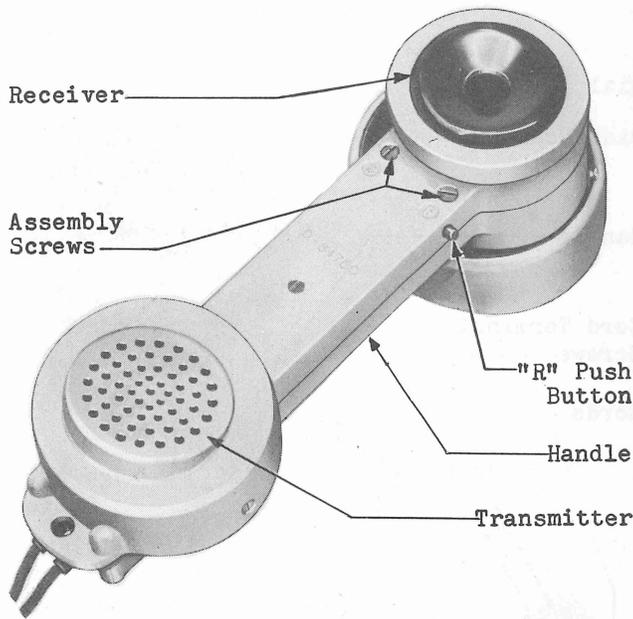
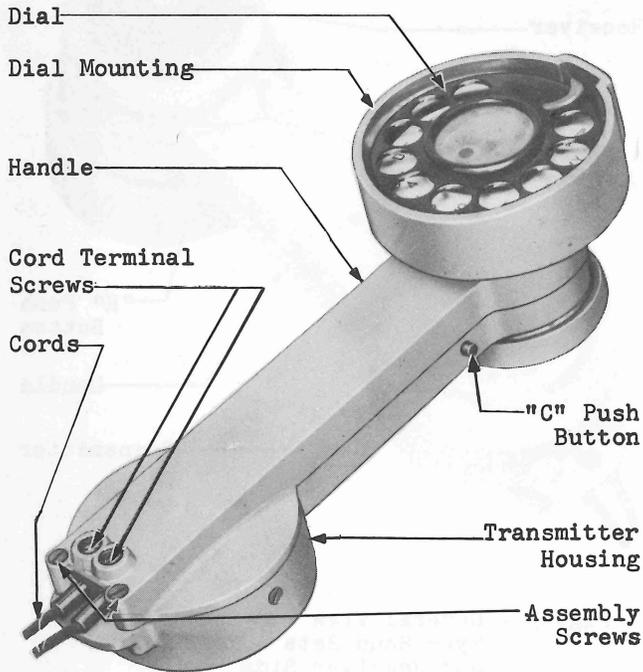
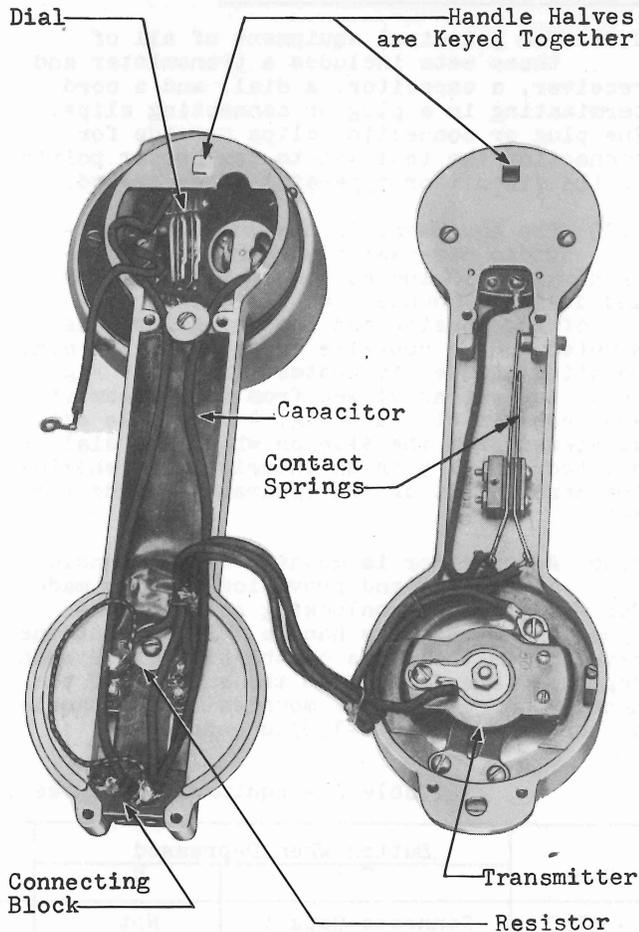

Fig. 3 - General View - D-Specification Type Hand Sets - Transmitter and Receiver Side
Fig. 4 - General View - D-Specification Type Sets - Dial Side
Fig. 5 - General View - D-Specification Type Hand Set - Opened
2.05 The equipment is assembled in a divided die-cast aluminum housing approximately 10 inches long. The receiver and dial are mounted back to back on one end of the housing and the transmitter is mounted on the opposite end. A No. 38A dial mounting is used to protect the dial. Fig. 3 shows the set as viewed from the transmitter and receiver side and Fig. 4 shows the set as viewed from the side on which the dial is mounted. Fig. 5 is an interior view showing the arrangement of the apparatus inside the set.
3. To reword 2.04 and 2.06 and Fig. 5.